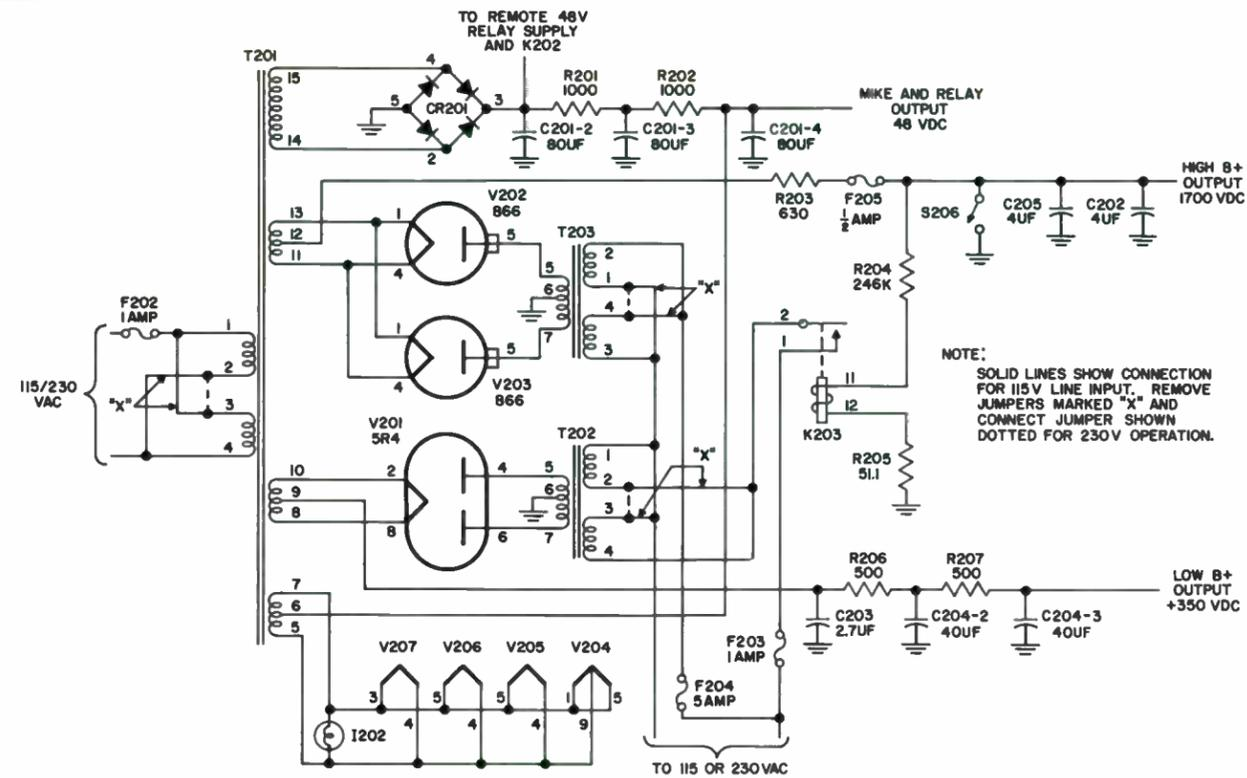

Figure 4-9. Power Supplies
4.3.2.4 MICROPHONE AND RELAY POWER SUPPLY. (Refer to figure 4-9.) Input power for the microphone and relay power supply is developed across taps 14 and 15 on the secondary of transformer T201. A full-wave, bridge type rectifier, CR201, converts the a-c input to approximately 50 volts d-c. Power for control of relay K202 and the carbon microphone is supplied by this voltage which is filtered by C201. A pi-type RC filter network also is used in this power supply. The filtered output is used for the microphone input voltage and to raise the d-c level of the audio and modulator tube filaments to reduce hum. The output of the power supply is available at pin 3 of J202 for remote operation.
4.3.2.5 HIGH B+ POWER SUPPLY. (Refer to figure 4-9.) Two diode rectifier tubes, V202 and V203, form a full-wave rectifier to produce 1700 volts d-c output for the high B+ power supply. Type 866 tubes are used in the temperature range +15°C to +40°C; type 3B28 tubes are required over wider temperature ranges. Filament voltage for the rectifiers is developed across taps 11 and 13 in the secondary of transformer T201. The plate voltage for the rectifiers is developed across taps 5 and 7 of the secondary of transformer T203. Resistor R203 and capacitors C202 and C205 filter the high-voltage output. The 1700-volt high B+ is applied to the plate of the power amplifier, V105.
4.3.2.6 LOW B+ POWER SUPPLY. (Refer to figure 4-9.) Tube V201, a type 5R4 full-wave rectifier, furnishes 350 volts d-c for all plate and screen voltages, except the PA plate in the r-f unit, and for the modulator section of the modulator-power supply unit. This voltage is bled down or regulated by the VR tube as each circuit requires. The filament power for V201 is developed across taps 8 and 10 in the secondary of transformer T201, and the plate power is developed across taps 5 and 7 in the secondary of transformer T202. The output of this supply is filtered by a two-section pi-type RC filter network.
4.3.2.7 AUDIO AND MODULATOR FILAMENT POWER SUPPLY. (Refer to figure 4-9.) A separate winding on the secondary of transformer T201, taps 5 and 7, furnishes filament voltage for the audio amplifiers and the modulator tubes. The center tap 6 of the secondary winding is connected to the 50-volt power supply to raise the d-c level of the filament voltage to reduce hum. POWER indicator lamp I202 is connected in parallel with the filaments powered by this supply. When the transmitter is keyed and K202 is energized, PLATE indicator lamp I201 is connected in parallel with the filaments.